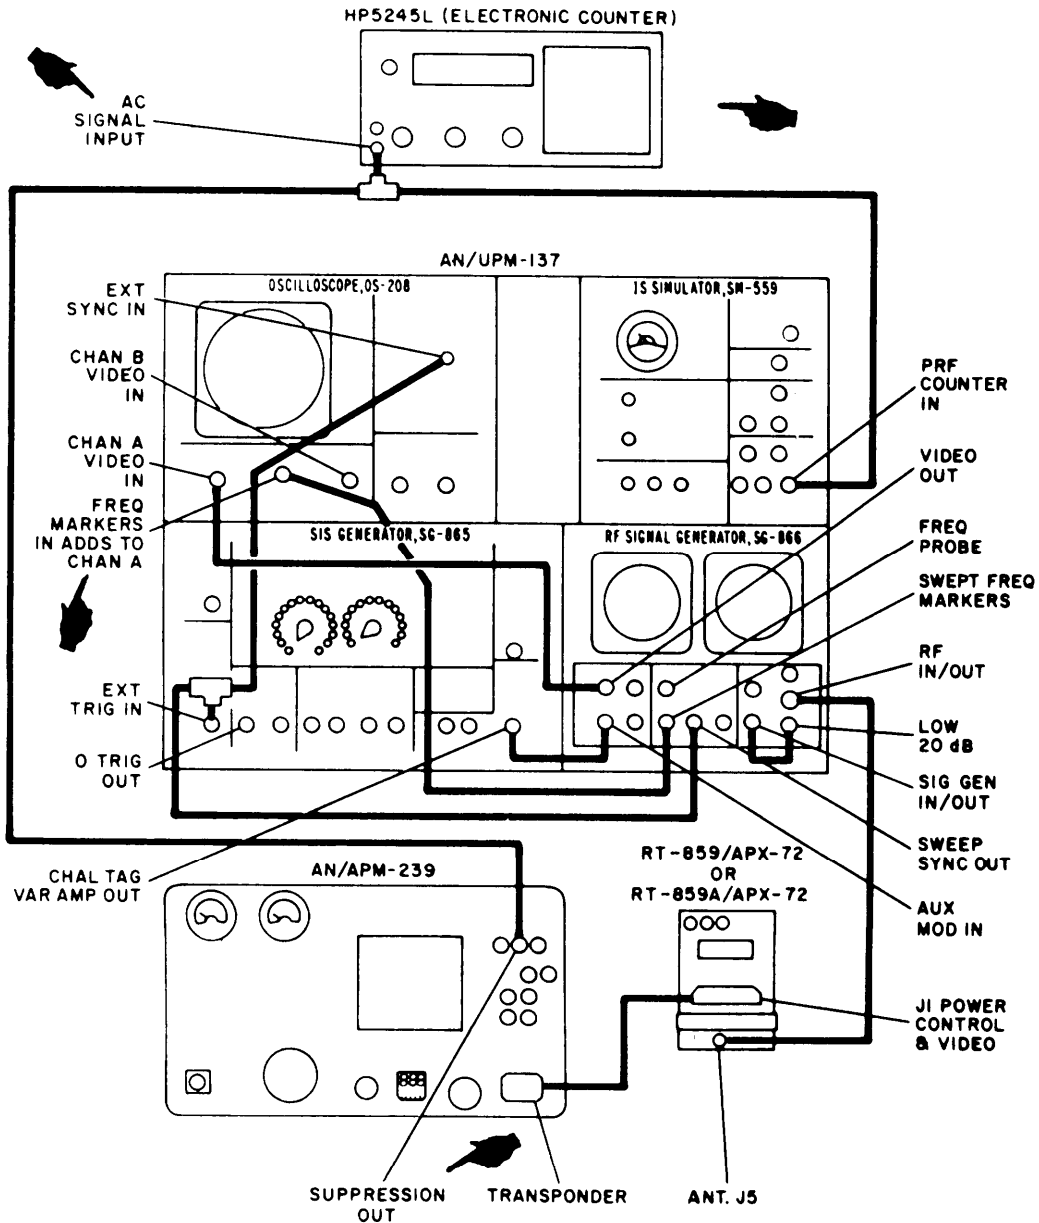

Figure 4-5. Receiver Bandwidth/Transmitter Power Tests , Test Setup
d. Receiver Bandwidth and Center Frequency Tests. The tests provided in table 4-17, page 4-54, are performed to determine the receiver bandwidth and center frequency with interrogations in Mode 1 using the AN/UPM-137 test set and test setup shown in figure 4-5, page 4-52. Perform the preliminary and starting procedures, page 4-46, before the performance tests.
e. Transmitter Frequency and Power Measurements. The tests provided in table 4-18, page 4-56, are performed to determine the transmitter frequency and power outputs with interrogations in mode 1 using the AN/UPM-137 test set and test setup shown in figure 4-5, page 4-52. Perform the preliminary and starting procedures, page 4-46, before the performance tests.